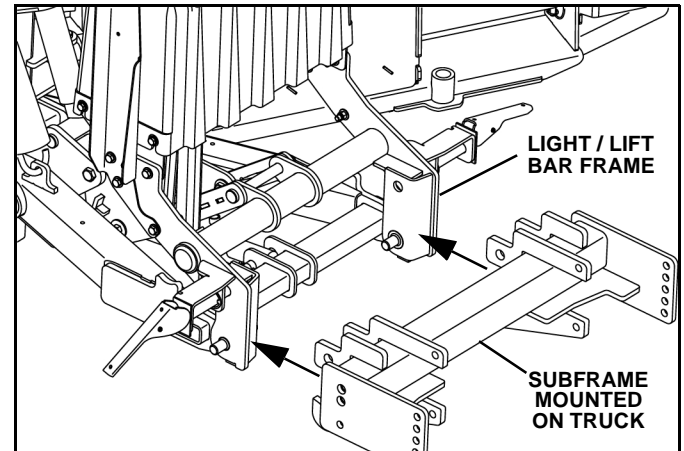

Figure 1-21
1. Drive truck into plow, aligning light/lift bar frame with subframe lugs. Pins should fit inside slots cut into subframe lugs. (See Figure 1-21).